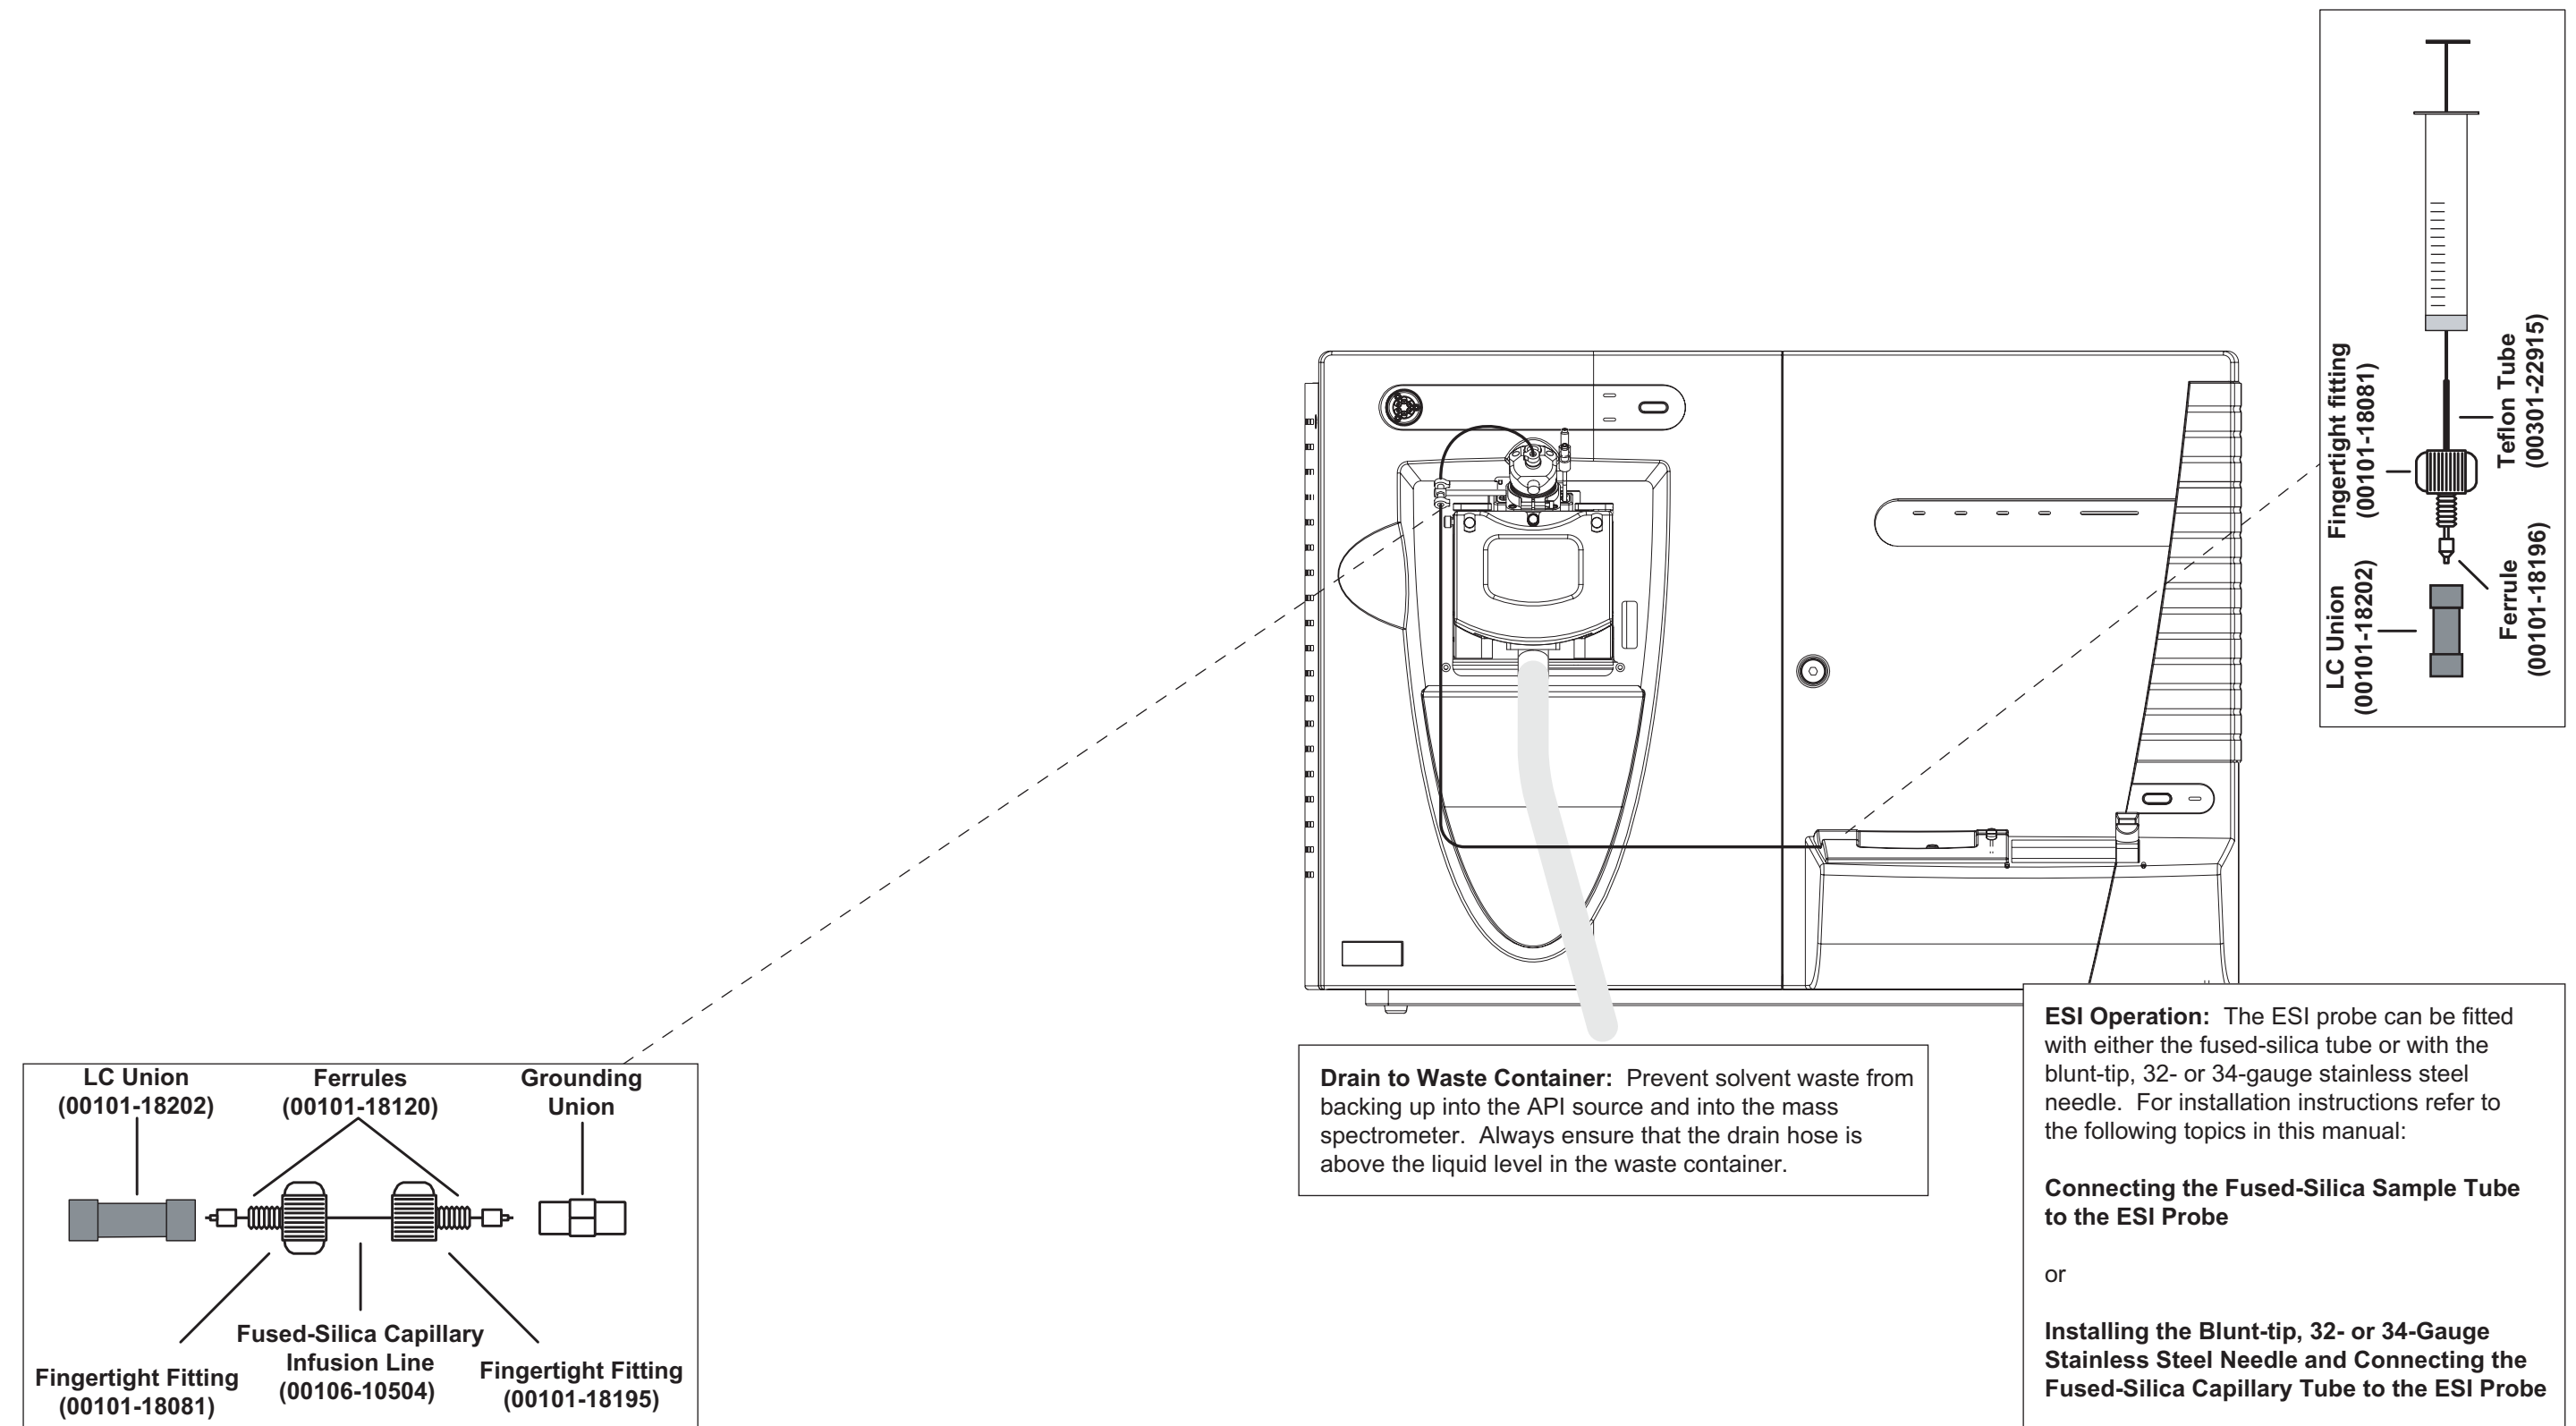

Figure 11-1. Plumbing diagram showing ESI/MS sample introduction from the syringe pump
Syringe pump ESI/MS (Figure 11-1, page 11-6)	Analysis of a pure analyte Automatic calibration and tuning
- Figure 11-1. Plumbing diagram showing ESI/MS sample introduction from the syringe pump